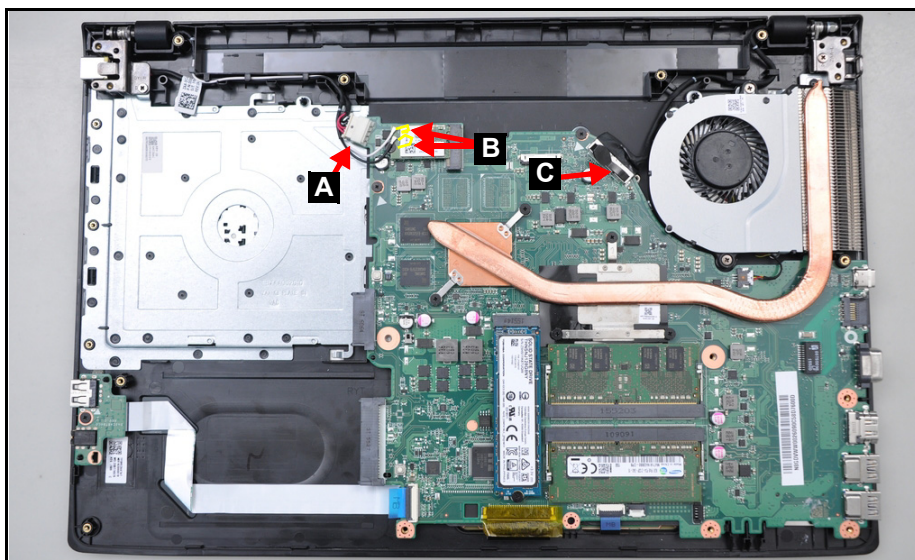

Figure 3-47. LCD Module Removal
1. Disconnect the DC-in cable from the mainboard connector (A) (Figure 3-47).
2. Disconnect the WLAN antennas from the connectors (B) (Figure 3-47).
3. Disconnect the eDP cable from the mainboard connector (C) (Figure 3-47).